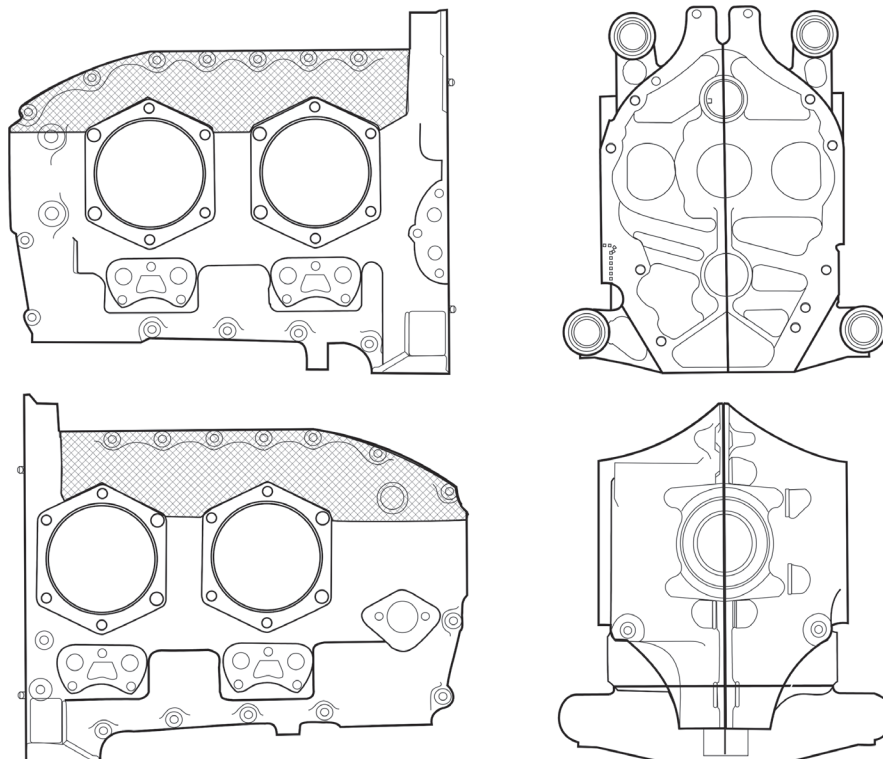

Figure 6-82. O-200 Engine Crankcase
- a. Cylinder deck (white/non-shaded in Figure 6-82 through Figure 6-88 = critical areas) cracks, regardless of size require **immediate crankcase replacement**.
- b. Repair cracks two inch (5.08 cm) or longer in the shaded (non-critical) locations of Figure 6-82 through Figure 6-88 according to instructions in Section 10-7.
- 3) Inspect cracks previously identified in the non-critical stress areas of Figure 6-82 through Figure 6-88 for progression at 50-hour inspection intervals. If a crack in the non-critical area progresses to two inches or more in length, repair or replace the crankcase.
Illustrations in Figure 6-82 through Figure 6-88 depict critical stress areas on the crankcase as white/non-shaded; non-critical stress areas of the crankcases are shaded in the illustrations.